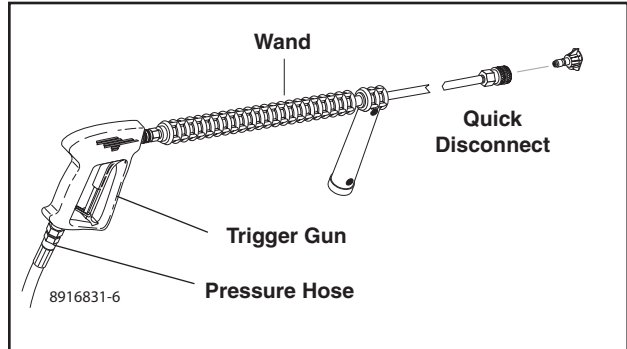

Figure 2 - Trigger Gun/Wand Assembly
3. Assemble wand components as shown in **Figure 2**.